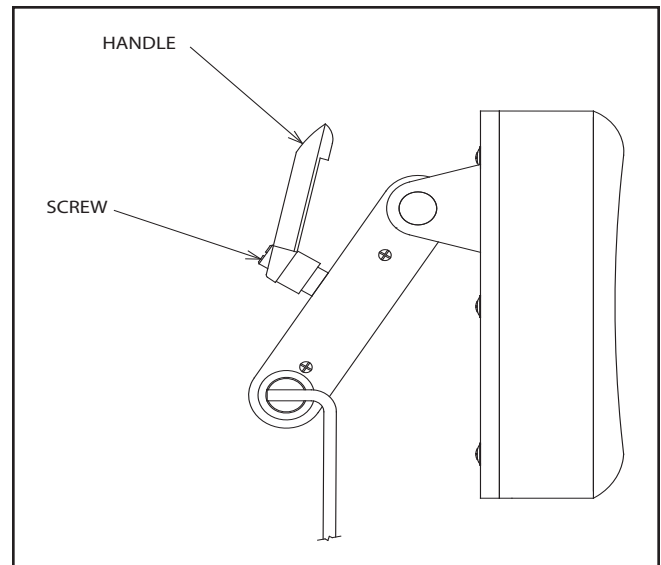

FIGURE 8
3.9.11.1 A single handle on the rear of the C6 headrest controls the locking mechanism. To unlock, grasp the handle and turn counter-clockwise. Change the tilt of the headrest until it is in the desired position. To lock, turn the handle clockwise until snug. (See Figure 8)
3.9.12.1. The handle on the outermost knob can be adjusted to any preferred, locked position. Simply push in on the large screw while pulling out on the handle. Rotate as desired, and release. (See Figure 8)